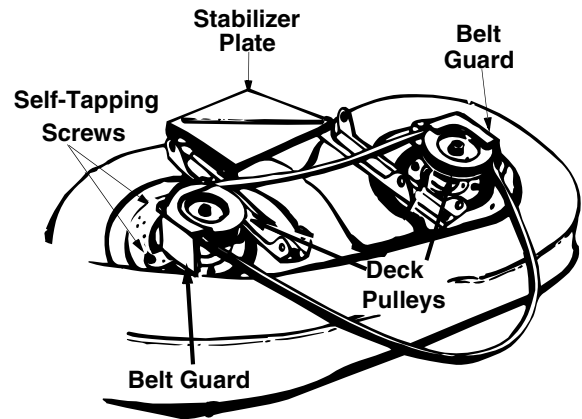

Figure 20
- Remove the belt guards at each deck pulley by removing the self-tapping screws. See Figure 20 .